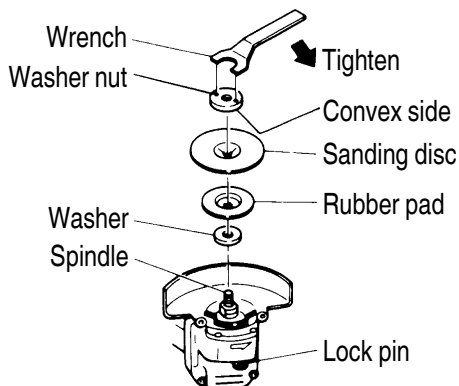

Fig. 3
1. Mounting the 100 mm Sanding Disc. (see Fig. 3)
- (1) Mount the washer, rubber pad and sanding disc onto the spindle.
- (2) Screw from the washer nut onto the spindle.
- (3) As shown in Fig. 3, push in the lock pin to prevent rotation of the spindle. Then, secure the sanding disc by tightening the wheel nut with the wrench.